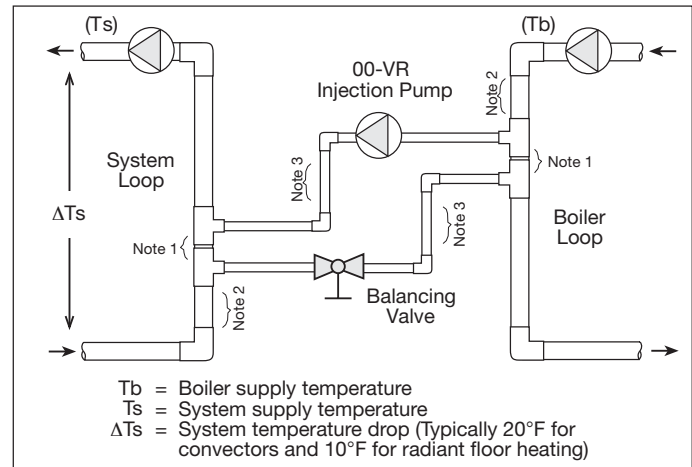

Figure 1
When the injection pump is turned off, there must be no heat transfer from the boiler loop to the system loop. In order to avoid this unwanted heat transfer, primary/secondary piping techniques are used as shown in Figure 1.
1. Determine the design operating temperatures of the system loop and boiler. ( $T_s$  and  $T_b$  from Figure 1)